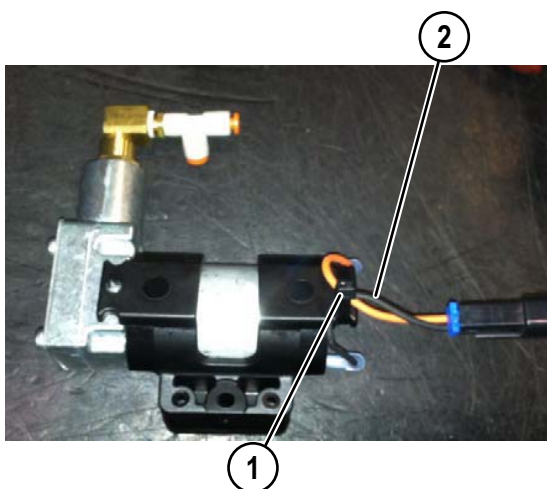

FIGURE 3-20.
14. Attach wire harness jumper (2, Figure 3-20) to the compressor. Ensure the orange wire is connected to the compressor terminal on the valve side of the compressor. Secure wire harness jumper (2) to the clamp using cable tie (1) as shown.